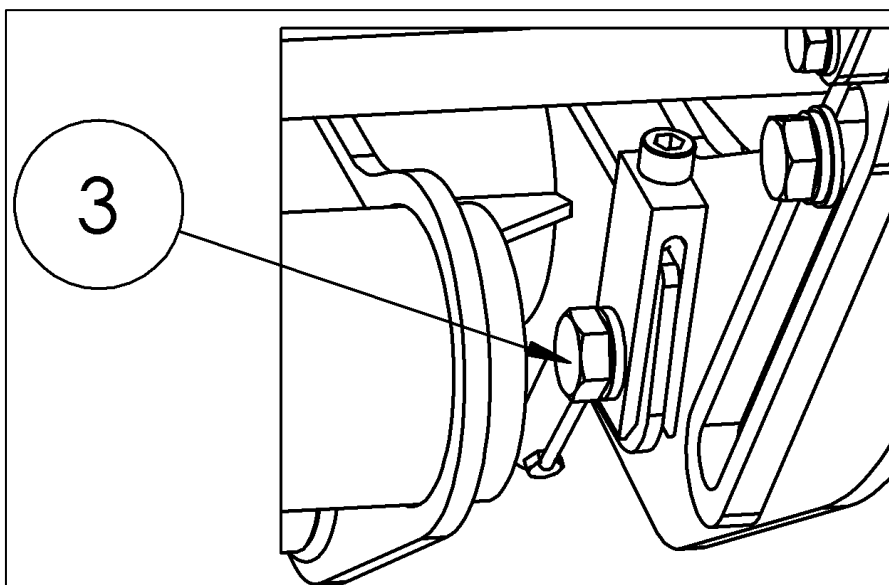

Fig. 72
- When finished adjusting, tighten the bolt (3) for securing the torsion bar to 115 Nm (see torque table on page 68 and see Fig. 72).